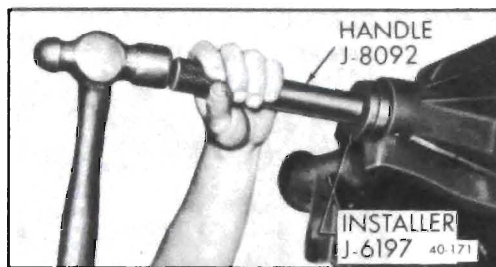

Figure 40-141 Installing Front Pinion Bearing Outer Race
1. Drive front pinion bearing outer race against shoulder on carrier using Installer J-6197 with driver handle. See Figure 40-141.